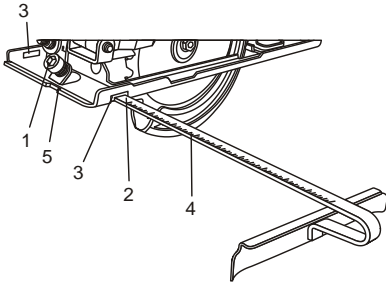

Fig. 5
1. Loosen the edge guide locking screw (1) counter clockwise approximately 2 turns using the 5mm hex key (Fig. 5).
2. Slide the edge guide mounting rod (2) into the mounting slots (3) in the sole plate.
3. Align the desired cutting width on the scale (4) with the 0° cutting mark (5) in the sole plate.